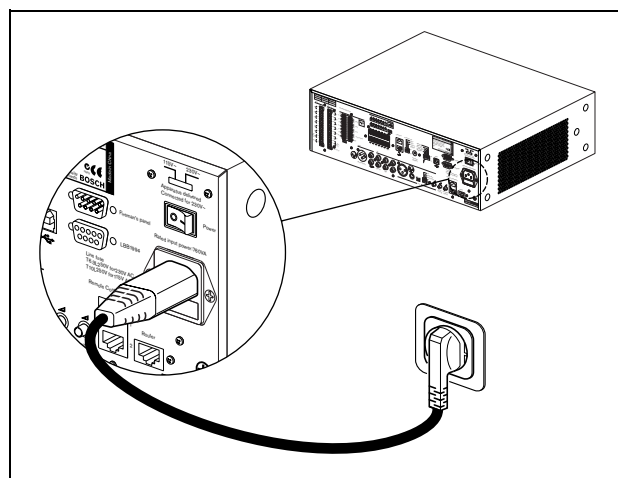

figure 5.19: Connecting the mains cord
- 3 Connect a locally approved mains cord to the voice alarm controller (see figure 5.19).
- 4 Connect the mains cord to a locally approved mains outlet (see figure 5.19).